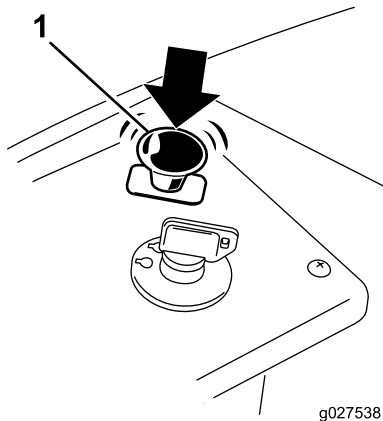

Figure 13
1. Disengage the blades by moving the blade-control switch to OFF (Figure 13).